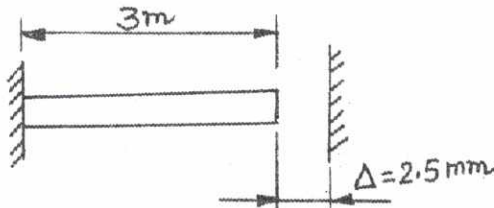

Fig.Q2(c)
- c. The bronze bar 3m long with 320mm² cross sectional area is placed between two rigid walls. At -20°C there is a gap $\Delta = 2.5\text{mm}$ as shown in Fig.Q2(c). Find the magnitude and the type of stress induced in the bar when it is heated to a temperature 50.6°C . For bronze bar, take $\alpha_B = 18.0 \times 10^{-6}/^\circ\text{C}$ and $E = 80 \text{ GPa}$. (07 Marks)